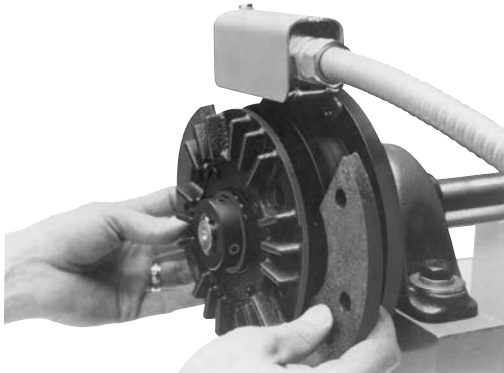

Figure 16
9. Attach the new armature segments to the cast iron carrier with hex head capscrews, lockwashers and washers. Apply one drop of Loctite (grade AA or equivalent) to each screw. (See Figure 16) Tighten to the appropriate torque for your size unit.